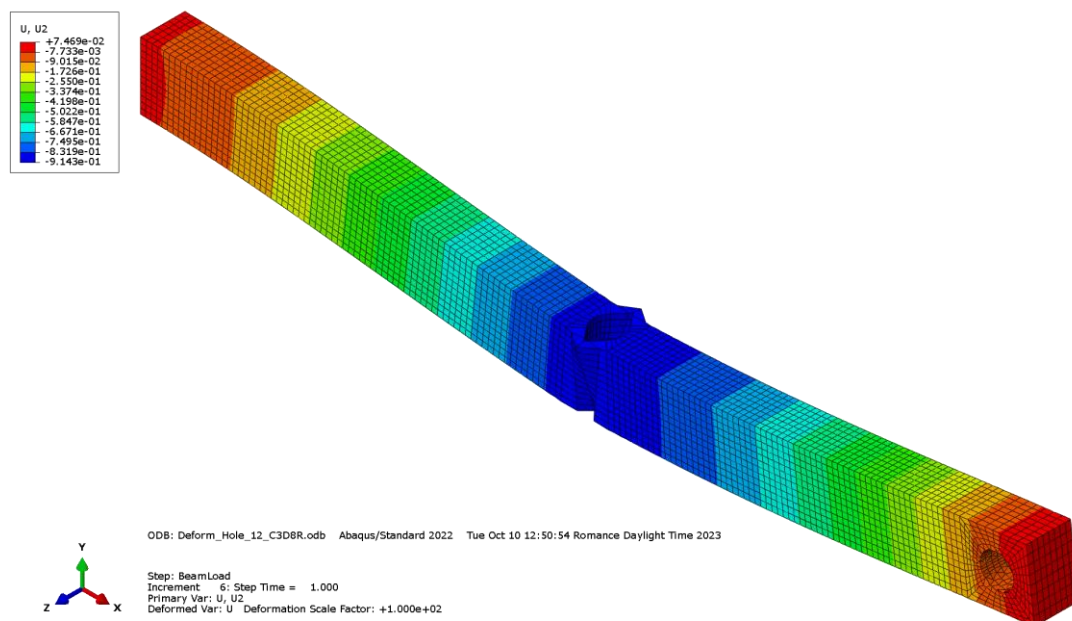
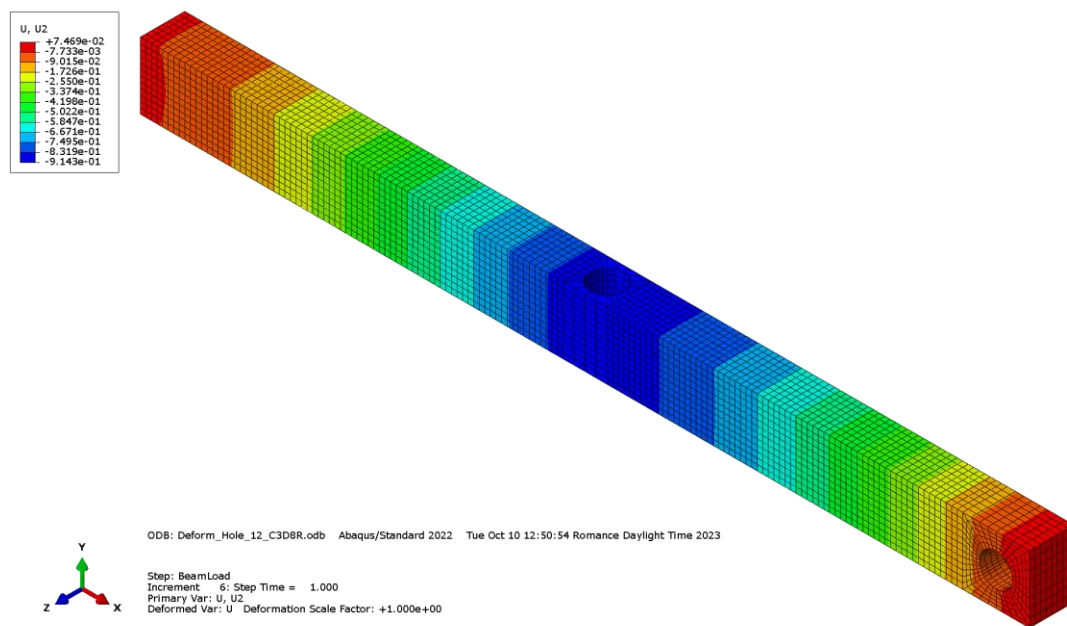

Figure 8: Displacement scale factor: 100.
Figure 9: Displacement scale factor: 1.
- 2) Figure 8 shows a contour plot of the vertical displacement U2 on the deformed shape. Figure 9 shows the vertical displacement with a scale factor of 1.